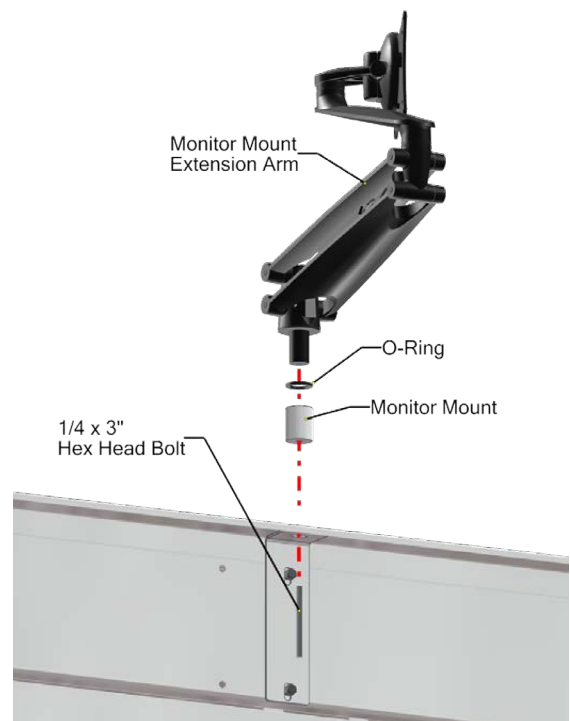

Fig. 17: Install extension arm
21. After securing the L-bracket, insert the 1/4" x 3" hex head bolt through the L-bracket flange hole (Fig. 17).
22. Screw the Monitor Mount onto the bolt (Fig. 17).
23. Insert the O-ring back onto the Monitor Mount Extension Arm peg and insert into the Monitor Mount (Fig. 17).